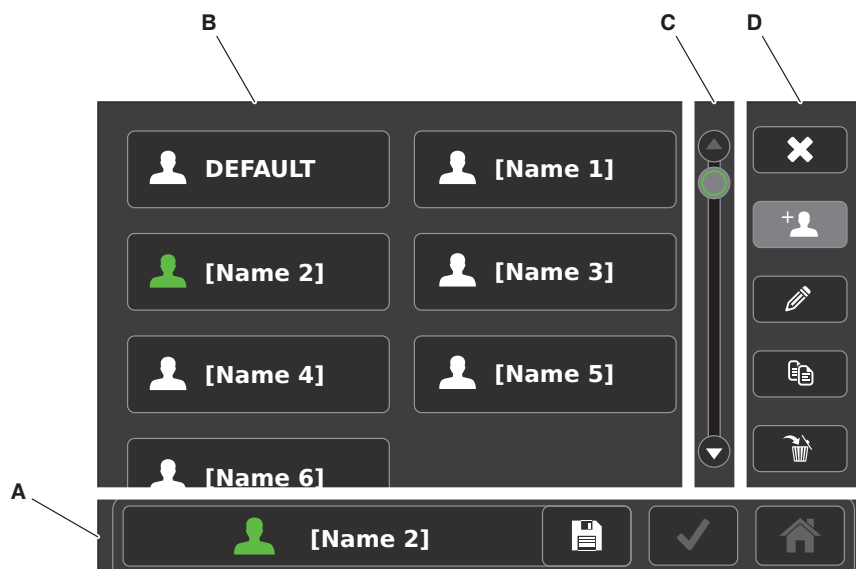

Figure 11 – Preset Screen
2. Touch the save button (Figure 11).